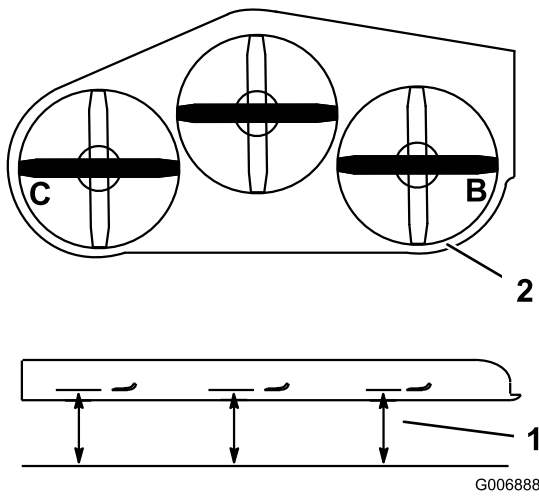

Figure 79
1. Position the **right** blade side-to-side (Figure 79).
2. Measure the right blade at the **B** location, from a level surface to the cutting edge of the blade tip (Figure 79).
4. Position the left blade side-to-side (Figure 79).
5. Measure the left blade at the **C** location (Figure 79), from a level surface to the cutting edge of the blade tip.